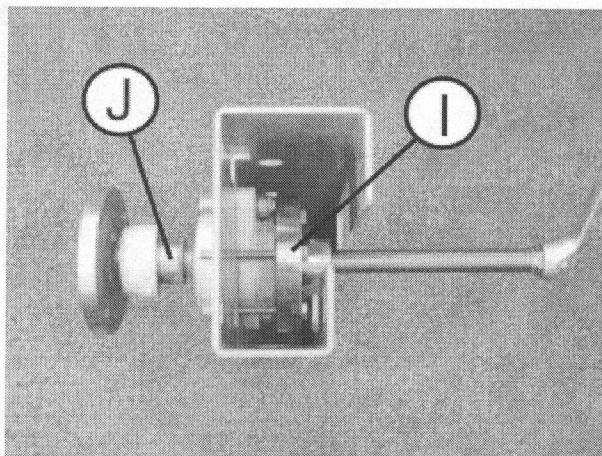

Fig. 048
11. Screw on extractor (I) and press flange (J) from the flange bearings (Fig. 048).